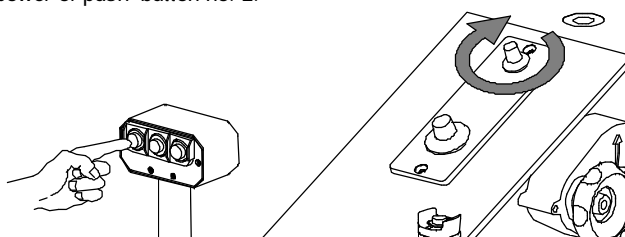

Fig. 12
c) On the left handle there is a push-button box with three push-buttons: the No. 1, the No. 2 and the No. 3; these act as power selectors and the operator has not to adjust the power each time he changes the cutting-die size. The push-button no. 1 (Fig. 12), on the left, is used to cut soft materials by means of tools with a small linear development. It is possible to gradually increase its value by means of the potentiometer shown in Fig. 12 till nearly reaching the power of push-button no. 2.